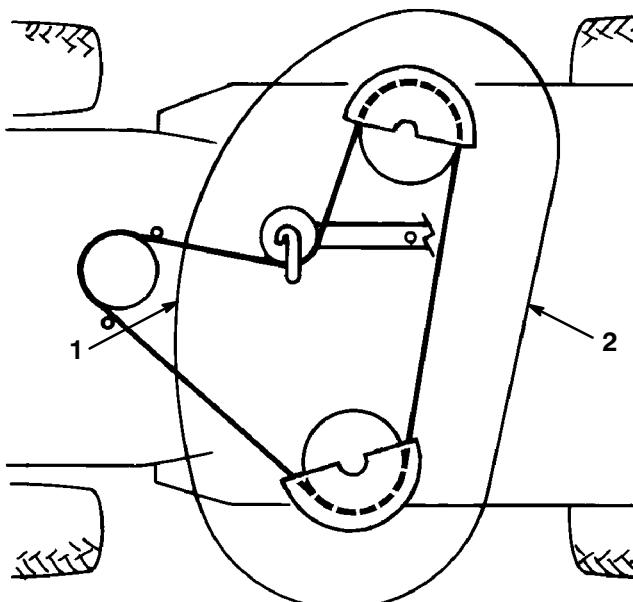

Figure 53
6. Check the front-to-rear slope by measuring between the bottom of the mower (front center and rear center) and the flat surface (Fig. 53). If the front is not within a range of 1/8–3/8 in. (3.5–10.5 mm) lower than the rear, an adjustment is required.